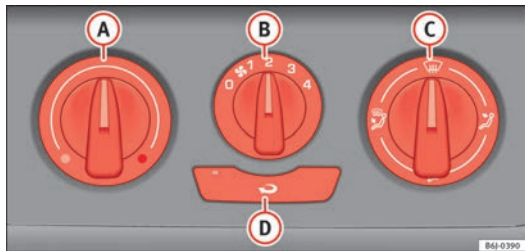

Fig. 106 Heating controls on the dash panel.
- Turn the temperature selector ⇒ Fig. 106 **A** anticlockwise.
- Turn the temperature selector ⇒ Fig. 106 **A** clockwise to select the desired temperature.
- Turn the temperature selector ⇒ Fig. 106 **A** clockwise to reach the maximum temperature.
- Turn the temperature selector ⇒ Fig. 106 **A** to the heating area.
- Close outlets ③
- Open and turn outlets ④ towards side windows.